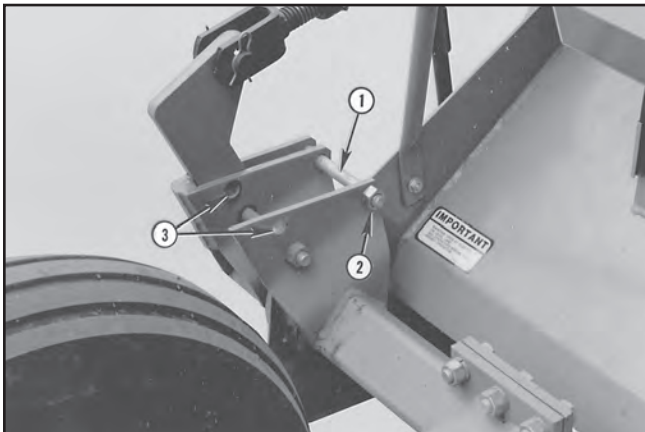

FIGURE 31
7. Ensure rockshaft lockup bolt is in its operating position. See Figure 31 on page 12. This permits ratchet jack, or aftermarket hydraulics, to be used elsewhere.